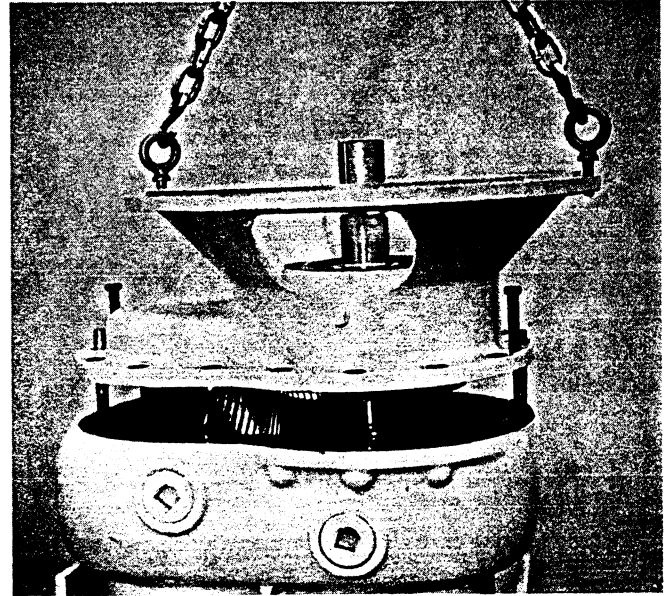

Figure 7
3. Remove the compressor gear case assembly from the rotor housing. This can be done by first attaching a rope or chain sling to the gear case; then, removing two opposite gear case to rotor housing attaching cap screws; and replacing these cap screws with studs, or headless bolts, approximately four to five inches (221.6 to 227.0 mm) long. These long studs, or headless bolts, may then act as guides when separating the gear case assembly from the rotor housing. Remove the balance of the attaching cap screws. The gear case assembly may now be jacked loose from the rotor housing, by means of the two $\frac{1}{2}$ " - 13 threaded jack screw holes found in the gear case to rotor housing flange. The assembly may then be lifted off and out of the rotor housing. Refer to Figure 7. Remove and discard the gear case gasket.